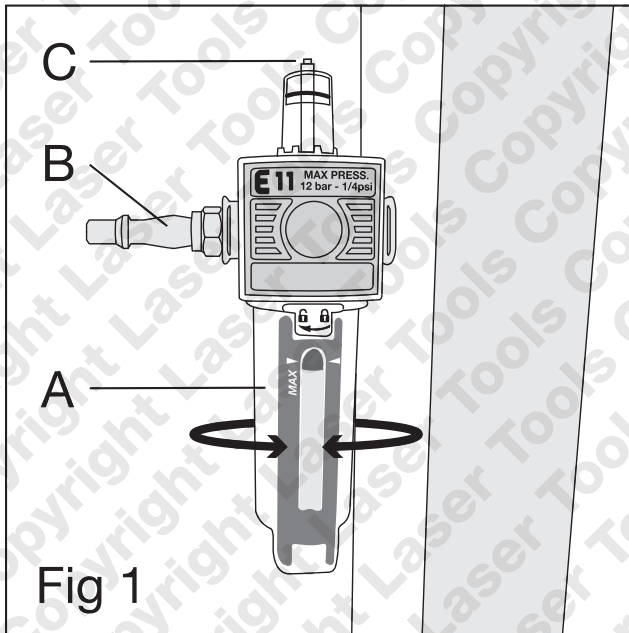

Fig 1
Check the oil level of the air lubricator (refer to **Fig 1**). The oil level can be seen through the clear portion of the oil reservoir (**A**).
- Check the oil level of the air lubricator (refer to **Fig 1**). The oil level can be seen through the clear portion of the oil reservoir (**A**).
- Make sure workshop compressed air supply is connected at the air inlet (B in Fig 1).